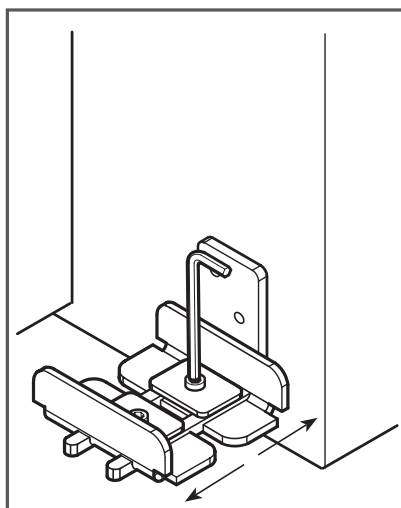

Figure 8
13. Using a 3/32" allen wrench, loosen the set screws on the U bracket to adjust for the width of the door (Figure 8).